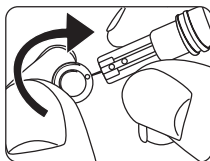

Figure 9
STEP 3: Remove the protective cap from the lancet by twisting it and then **save** it for later use. *See Figure 9.*